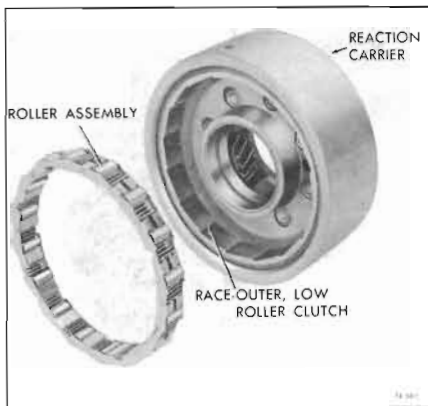

Figure 74-581
2. Inspect sprag or roller clutch outer race for scoring or wear. See Figure 74-581.